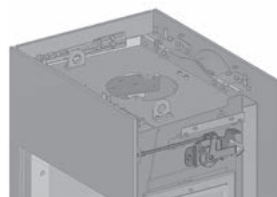

Fig. 5b - Bottom view
2. Now you have access from above to the rod mechanism on the right side of the stove that controls the throttle valve. The driving rod, mounted with the help of a lock nut, can be used to adjust the position of the flap (Figs. 5b and 5c).